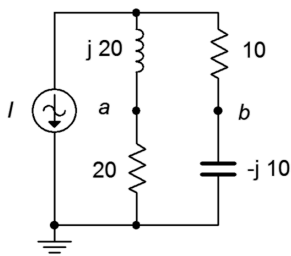

Figure 5.49
85. Find the Thévenin equivalent looking into nodes a and b for the circuit of Figure 5.49. $I = 4\angle 0^\circ$.